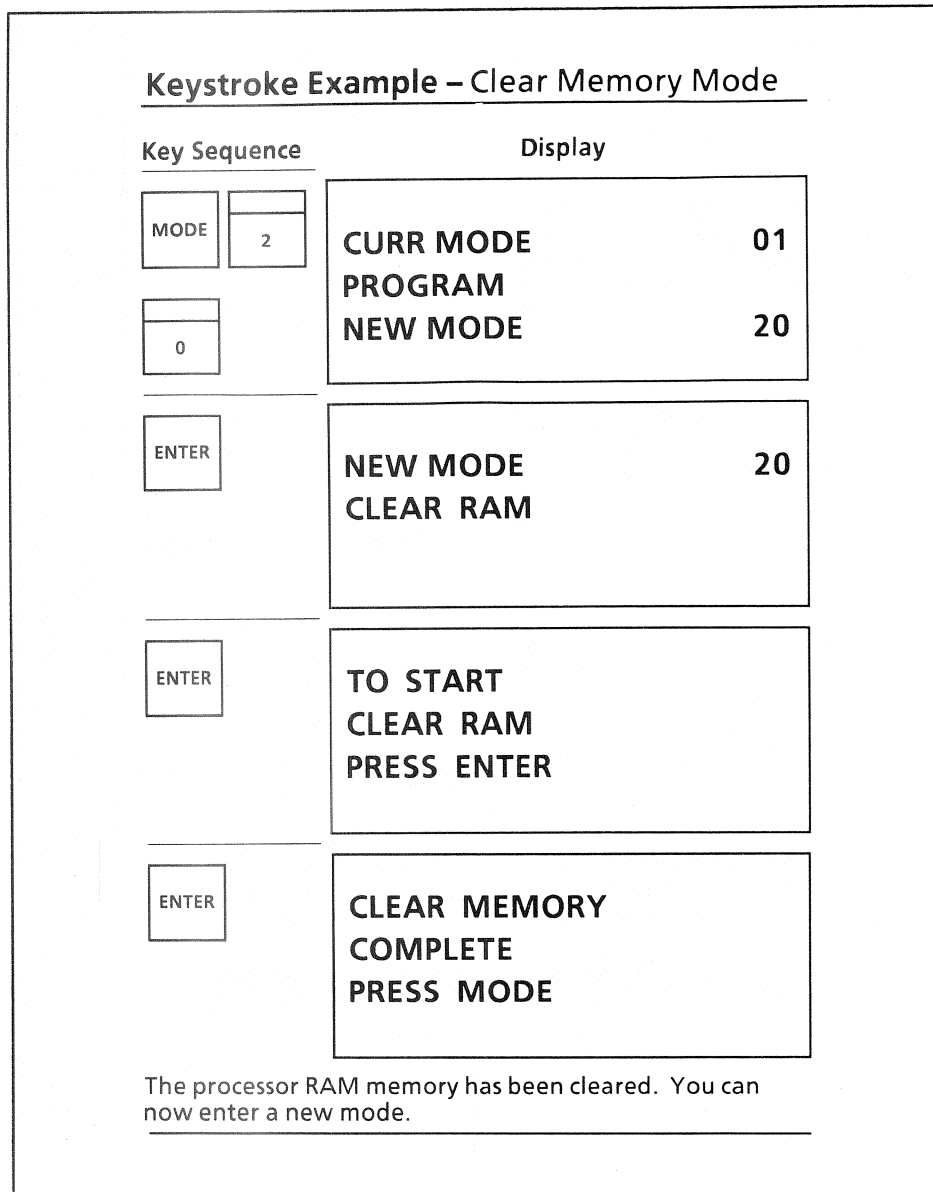

Figure 3.45.
3.9.4 Clear Memory – You can delete your entire program from the processor memory by using Mode 20, Clear Memory. Figure 3.45 illustrates how this is done.